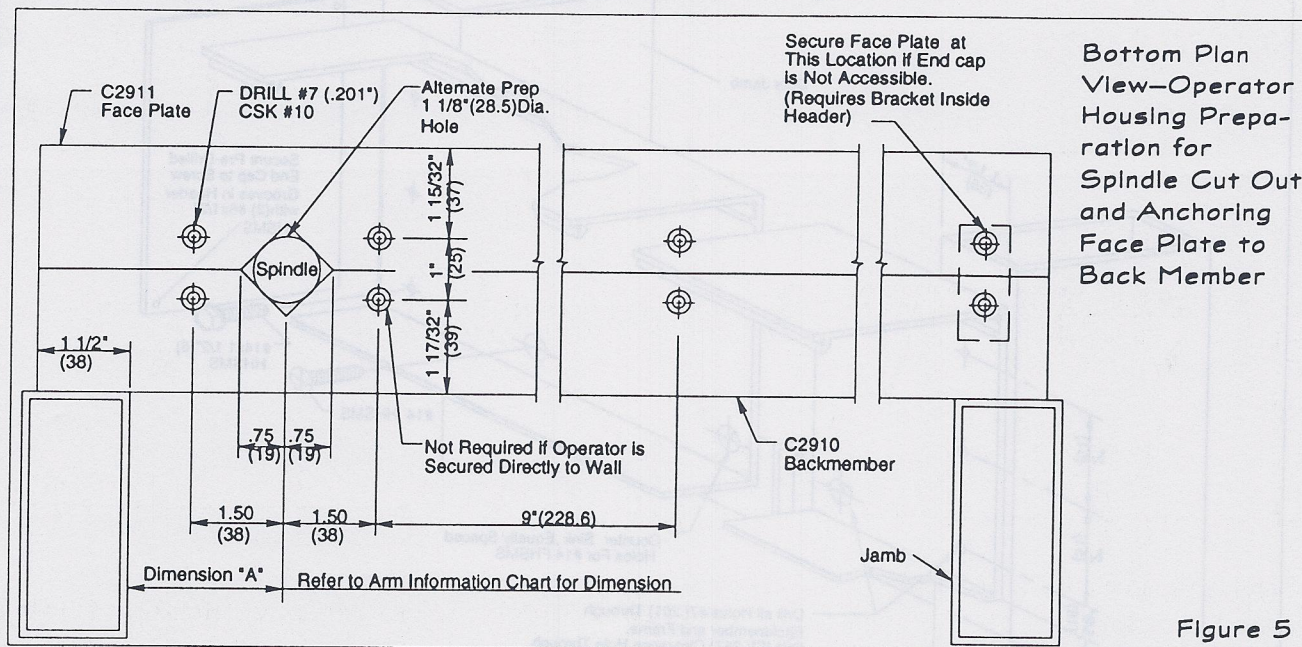
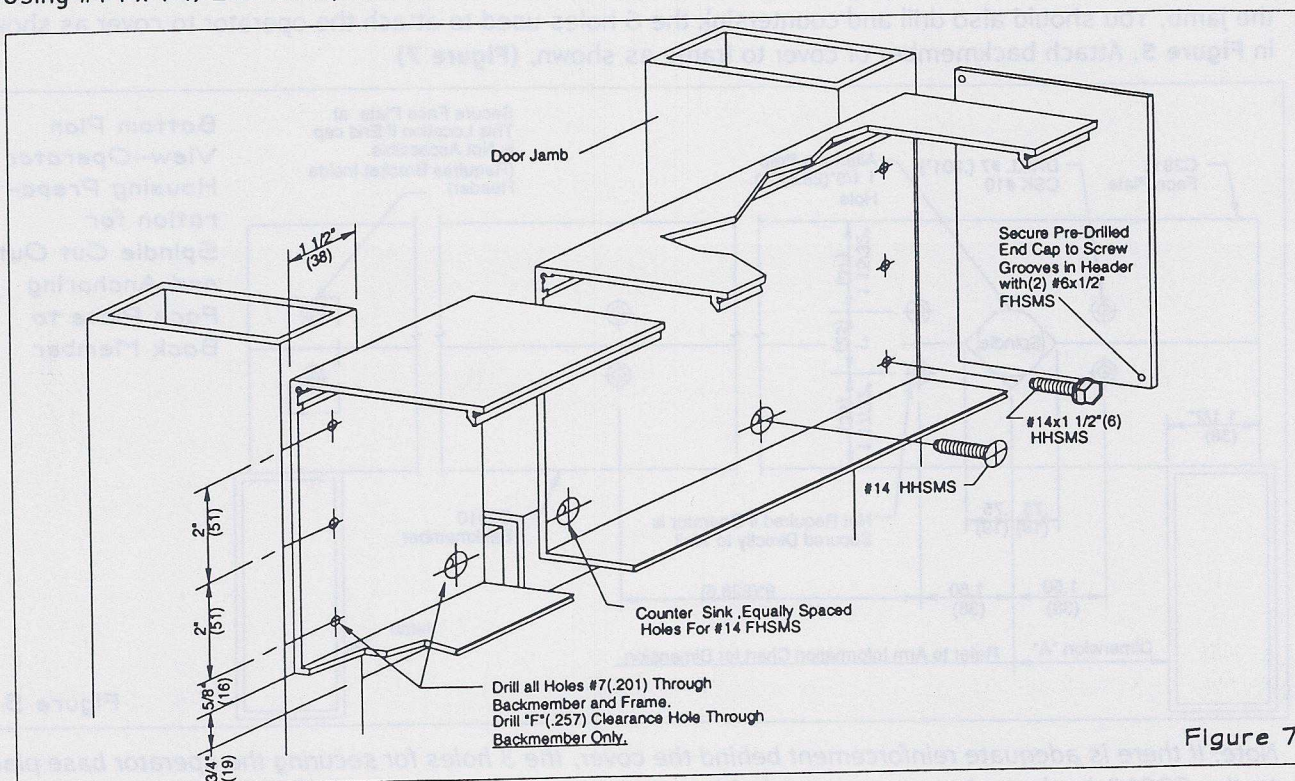

Figure 5
Figure 7
Cut cover to proper dimension – door opening plus 3" (1½" lap each jamb). Cut a notch for the operator spindle in the cover backmember and face plate. This notch should be positioned according to Dimension A in the Arm Information Chart on page G700.6 and should include the additional 1½" allowed for overlapping the jamb. You should also drill and countersink the 6 holes used to attach the operator to cover as shown in **Figure 5**. Attach backmember of cover to frame as shown, (**Figure 7**)
*Note: If there is adequate reinforcement behind the cover, the 3 holes for securing the operator base plate to the C2910 backmember are not needed because you can attach the operator base plate and cover backmember directly to the reinforced wall using #14 x 1½ HHSMS provided. However, the 3 holes for C2911 face plate are required to secure the face plate to the backmember. It may be necessary to secure the faceplate at the end opposite the operator with a method other than the end cap if the end cap is not accessible. (**Figure 5, Location A**)*
Using #14 x 1-1/2 HHSMS, mount cover as per Figure 7.
Slip the operator into the cover over the cleat and secure it into place using either the #14 x 1-1/2 HHSMS through the back side of the operator base plate and cover backmember into the reinforcement or using #10-24x3/4" FHMS in the predrilled holes on the bottom side of the cover. (Figure 5)
If the end cap is against a wall and will not be accessible, install the end cap to the 2910 backmember before securing the 2910 backmember to the door frame. The face plate is installed as per Figure 5 Location A.
The operator base plate will interlock with the cleat in the cover. Secure the operator by installing the 10-24 FHS through the cover bottom into the operator. (Figures 5 and 16)